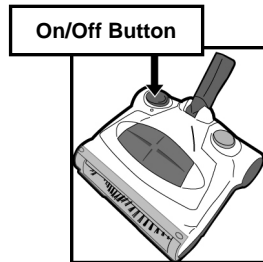

Fig. 5
2. Push the **On/Off** switch to operate the unit. To turn off, press switch again. (Fig. 5)